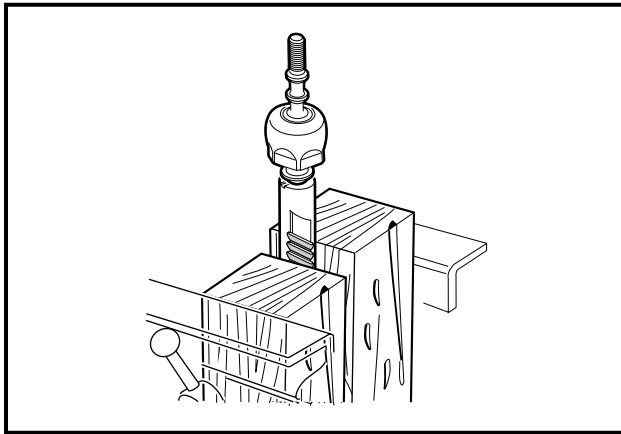

Figure 7-18 Remove Rack
- 13.1. Secure the rack in a vise (**Figure 7-18, Page 7-11**). Use wood blocks between the rack and the jaws of the vise to protect the rack from damage.